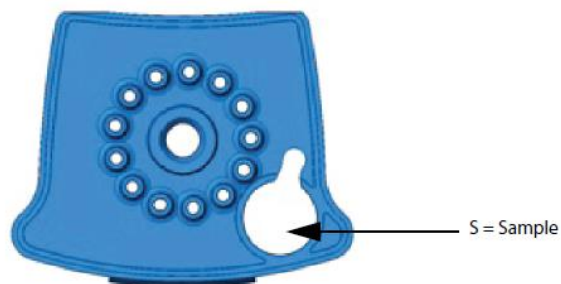

Figure 2: Chambers shown from top of cartridge.
6. Empty the pipette's content into the Sample chamber of the cartridge (See Figure 2)